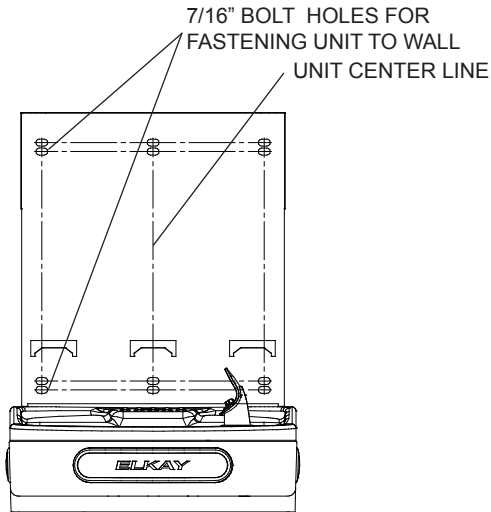

Fig. 6
- 4) Install wall mounting plate to wall using six (6) 7/16" obround mounting holes (mounting bolts not included) (See Fig. 6). Use appropriate fasteners for your wall type.